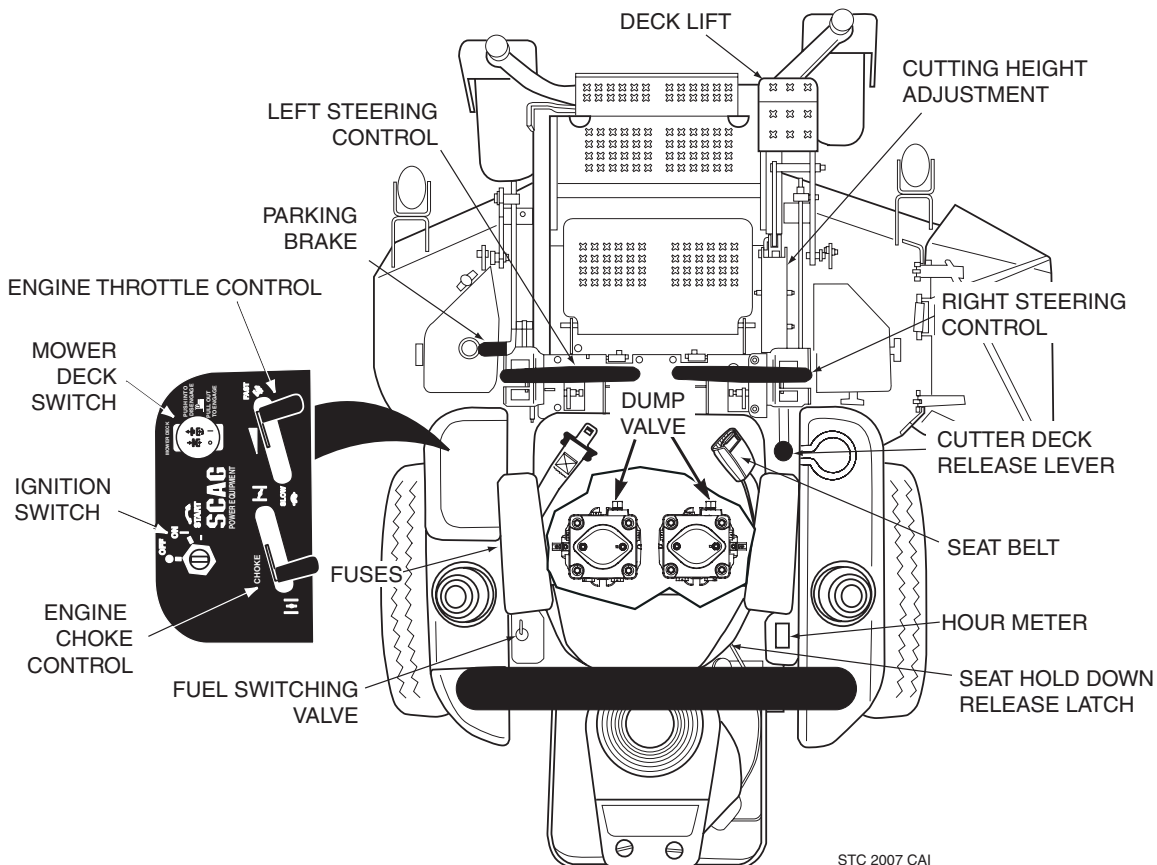

Figure 4-1. Controls and Instruments
1. **Ignition Switch (Figure 4-1).** The ignition switch is used to start the engine and has three positions; OFF, ON, and START.
2. **Mower Deck Switch (Figure 4-1).** Used to engage and disengage the mower drive system. Pulling up on the switch will engage the deck drive. Pushing down on the switch will disengage the deck drive.
3. **Engine Choke Control (Figure 4-1).** Used to start a cold engine.
4. **Engine Throttle Control (Figure 4-1).** Used to control the engine speed. Pushing the lever forward increases engine speed. Pulling the lever back decreases engine speed. Full back position is the IDLE position. Full forward is the cutting position.
5. **Hourmeter (Figure 4-1).** Indicates the number of hours the engine has been operated. It only operates when the engine is running. Has preset maintenance reminders for engine and hydraulic system oil changes. Will start flashing scheduled maintenance 2 hours before preset time and continue flashing until 2 hours after. Automatically resets.
6. **Fuse Holders (Figure 4-1).** Two 20-amp fuses protect the mower's electrical system. To replace fuses, pull fuse out of the socket and install a new fuse.
7. **Left Steering Control (Figure 4-1).** Used to control the mower's left wheel when traveling forward or reverse.
8. **Right Steering Control (Figure 4-1).** Used to control the mower's right wheel when traveling forward or reverse.
9. **Parking Brake Control (Figure 4-1).** Used to engage and disengage the parking brakes. Pull the lever back to engage the parking brakes. Push the lever forward to disengage the parking brakes.
10. **Fuel Switching Valve (Figure 4-1).** Located on the left side of the machine. Used to shut off fuel supply to the engine and change fuel supply between the fuel tanks. Rotate the valve counter clockwise to supply fuel from the tank on the left side only. Rotate the valve clockwise to supply fuel from the tank on the right side only.
12. **Deck Lift Foot Lever (Figure 4-1).** Used to raise and lower the cutter deck. Push full forward to lock in the transport position.
13. **Cutting Height Adjustment (Figure 4-1).** Used to set the cutter deck at the desired cutting height.
14. **Deck Release Lever (Figure 4-1).** Used to lock the cutter deck in the transport position. Push the foot pedal forward and pull back on the release lever to release the cutter deck for normal mowing.
15. **Seat Belt (Figure 4-1).** Used to secure the operator. Seat belt must be worn at all times when the ROPS is in the upright and locked position.
16. **Seat Hold Down Release Latch (Figure 4-1).** Located behind the seat. Used to secure the seat in the operator's position. Release the latch to gain access under the seat.